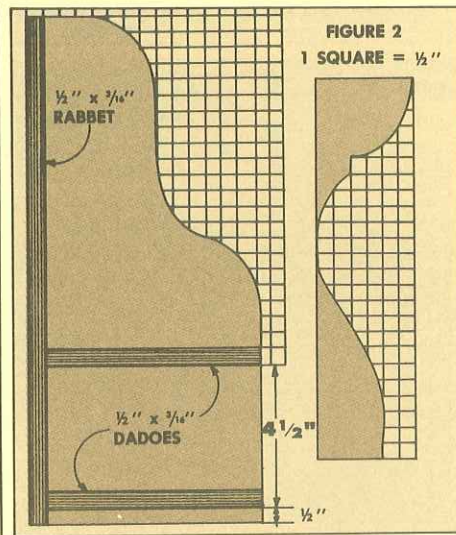

FIGURE 2
Now back to the case. Cut the dados and rabbets in the sides (A) as shown in Fig. 2. Make sure the distance between the dados fits the drawers. As you cut each dado in the side pieces, cut it in the back at the same time so you're sure they line up.
You can use the pattern shown in Fig. 2 for the "S" curve on the sides, but it's just as easy to freehand a gentle curve that suits your eye.
The pattern for the top of the back is shown in Fig. 2. When this is cut out, you're ready to start assembling. Dry-clamp everything together, and cut the shelves (C) and divider (D) to fit. The final test is to see if the drawers fit.